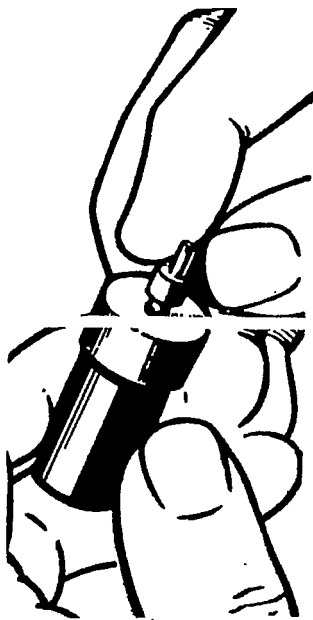

FIGURE 22. SLIDE TEST
2. Insert valve in nozzle body, Figure 22.